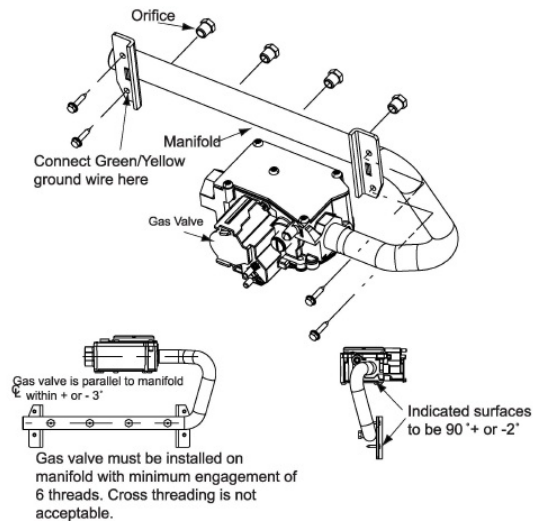

Fig. 2 – Manifold Assembly
3. Support the manifold and remove the four (4) screws that secure the manifold assembly to the burner box and set aside.
4. Note the location of the green/yellow wire ground wire for re-assembly later (Fig. 2).